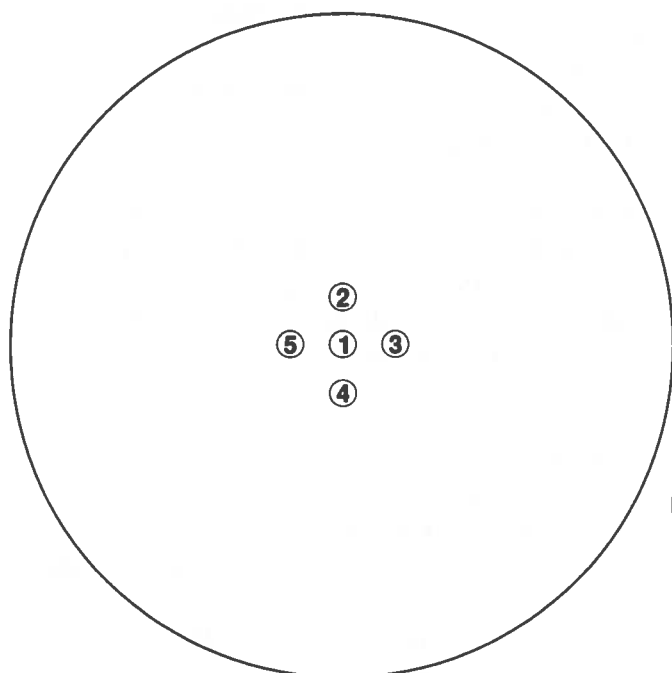

Figure 3 Template (actual size) for a 90 mm diameter Petri dish.
- Using the template (see Figure 3) take out five wells with the wide end of a glass Pasteur pipette (taking care not to stab your hand with the other end!). Remove the plugs with the fine end of a pipette and lower (not drop) them into the disinfectant in the discard jar. (Alternatively use a cork borer of a similar size, flaming it and allowing it to cool between taking out each well).